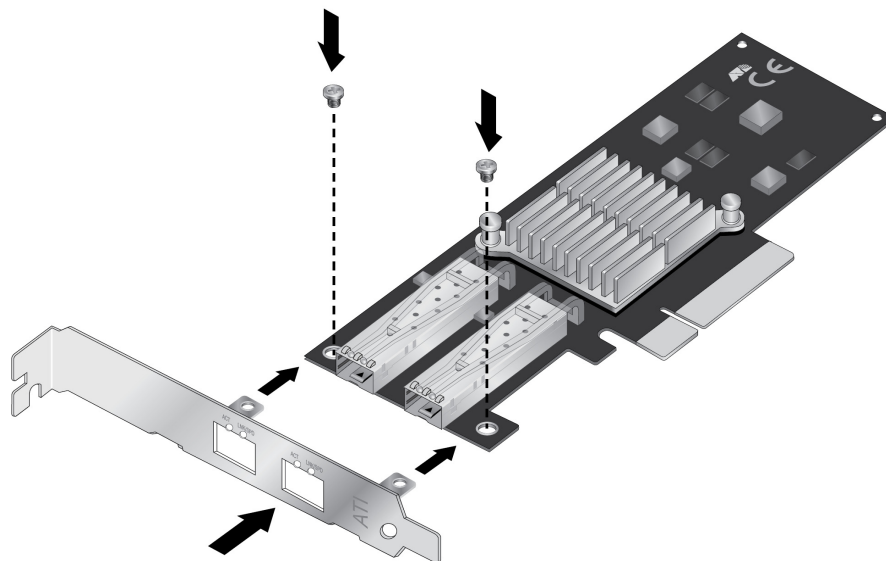

Figure 6. Installing the Standard Bracket
2. Align the tabs of the standard bracket with the holes on the network interface card and fasten the screws onto the card. See Figure 6 on page 32.